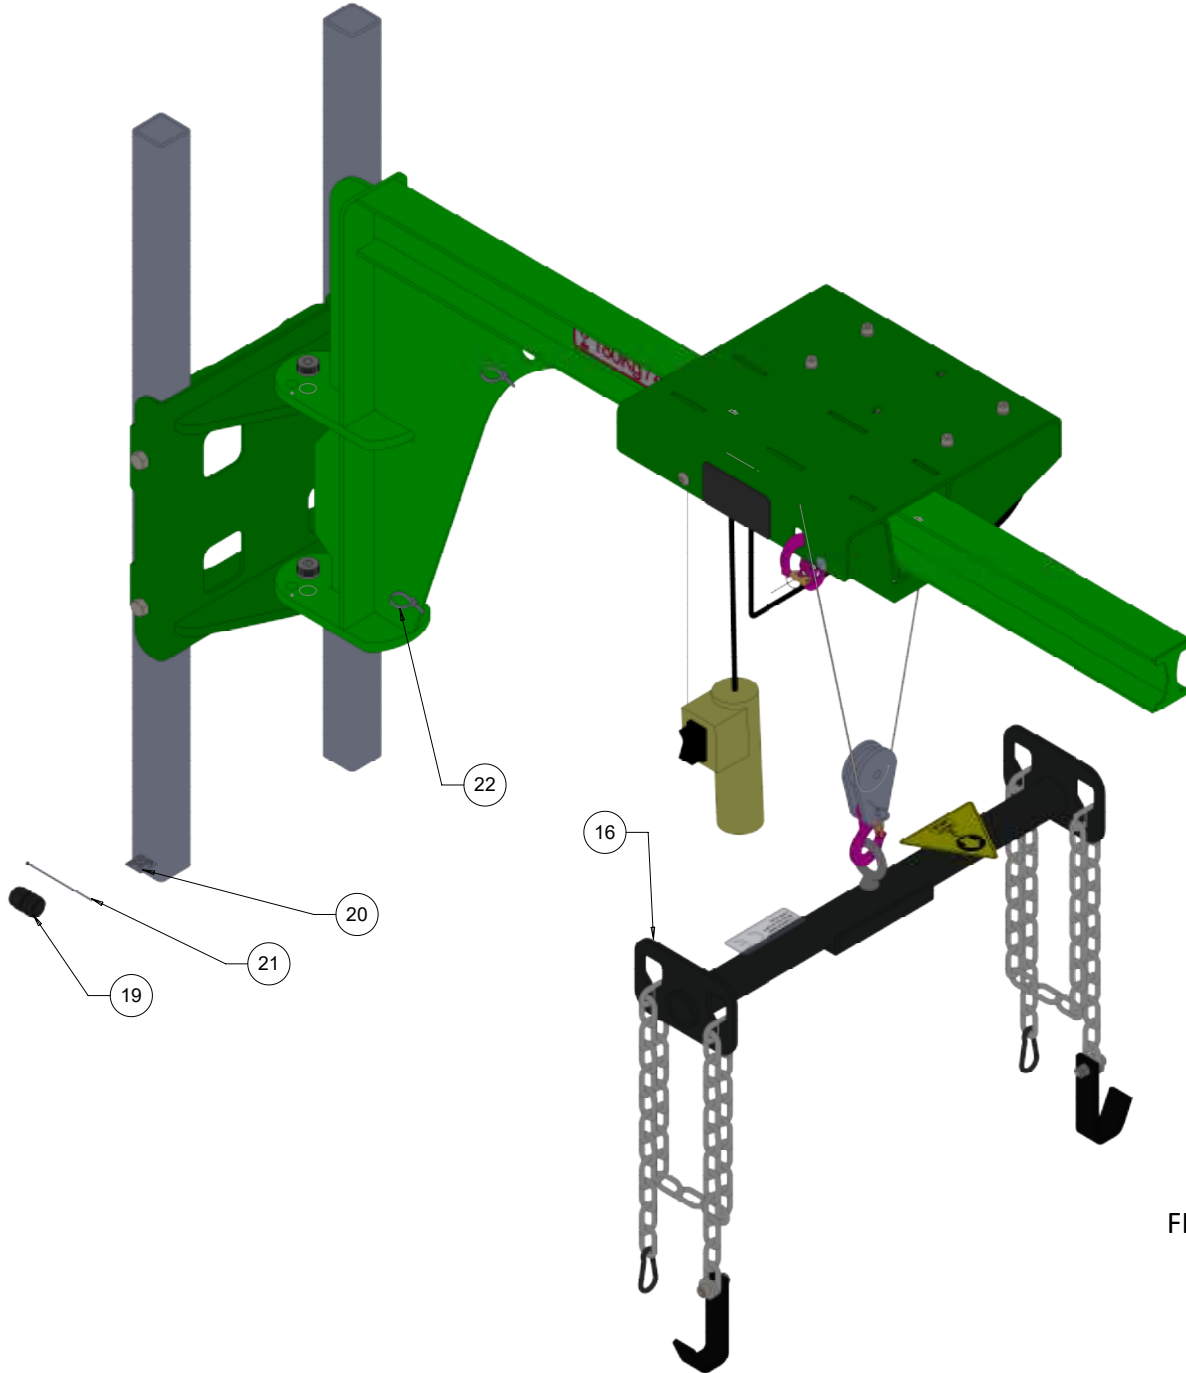

FIG. 12
10. Attach the spreader bar assembly (Item 16) to the winch by putting the winch hook assembly through the eye bolt as shown in FIG. 12.